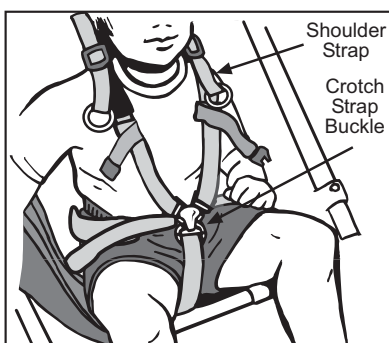
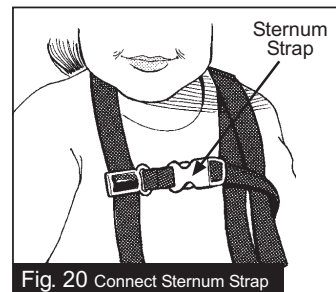

Fig. 18 Place straps over shoulders and secure to buckle.
Fig. 20 Connect Sternum Strap
**11. SEAT SAFETY HARNESS:** Set parking brake before placing child in stroller. To secure your child in the seat, put one shoulder strap over each shoulder and snap the male buckle into the female receiver on the crotch strap (Fig. 18). Adjust shoulder straps to be snug and secure (Fig. 19). Connect and adjust the sternum strap (red), see Fig. 20.